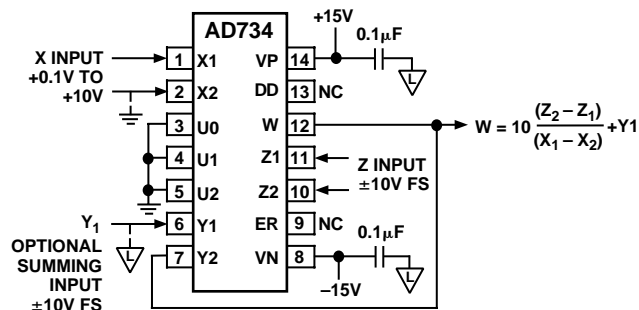

Figure 8. Standard (AD534) Divider Connection
the AD734 can be operated using the standard (AD534) divider connections (Figure 8), when the negative feedback path is established via the  $Y_2$  input. Substituting  $W$  for  $Y_2$  in Equation (2), we get
Figure 8 shows the connections for the standard (AD534) divider mode. Feedback from the output,  $W$ , is now taken to the  $Y2$  (inverting) input, which, provided that the  $X$ -input is positive, establishes a negative feedback path.  $Y1$  should normally be connected to the ground associated with the load circuit, but may optionally be used to sum a further signal to the output. If desired, the polarity of the  $Y$ -input connections can be reversed, with  $W$  connected to  $Y1$  and  $Y2$  used as the optional summation input. In this case, either the polarity of the  $X$ -input connections must be reversed, or the  $X$ -input voltage must be negative.